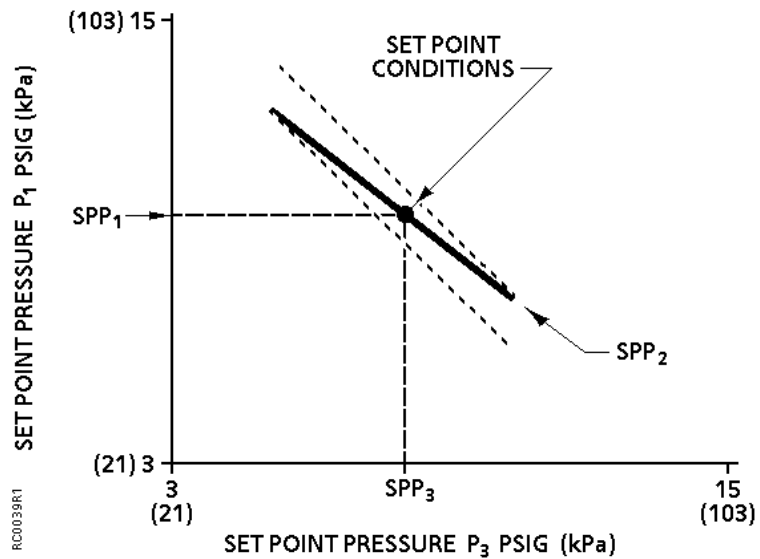

Figure 4. Setpoint.
3. Simulate Setpoint Conditions. Adjust the knobs on the simulator so that all pneumatic inputs are at their setpoint condition. See Figure 4.